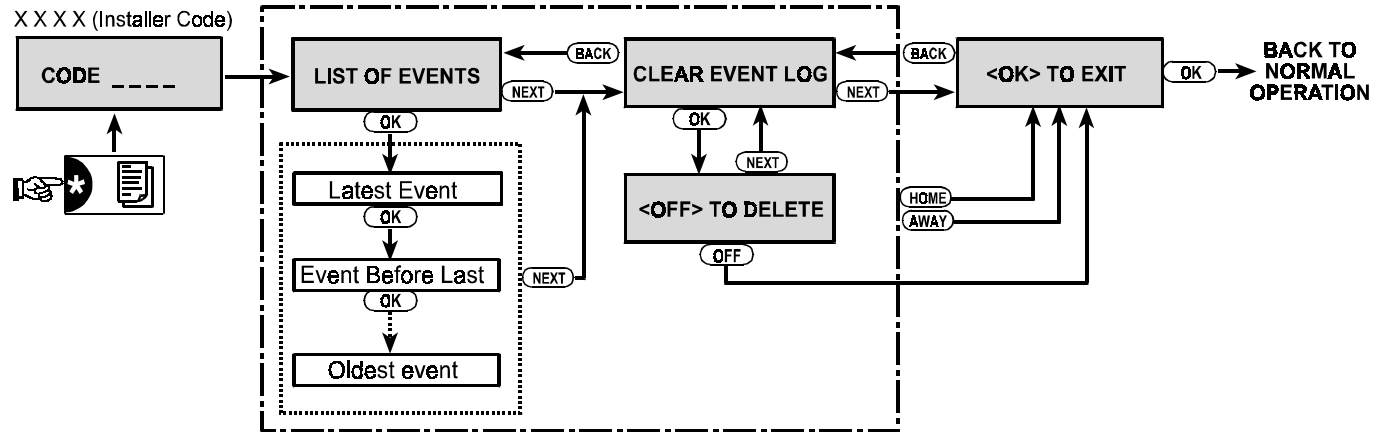

Figure 7. Using the Event Log
**Should you wish to get an overall view of using the log, refer to Figure 7. The chart there may even serve as your only guide to using the event log, instead of going through the written step-by-step procedure.**